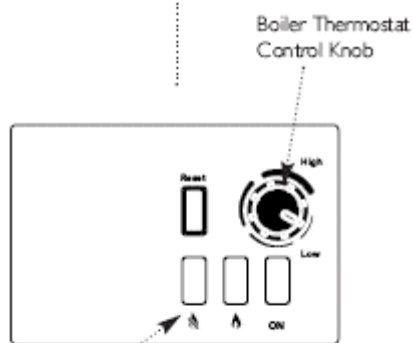

Fig. 6
2. The lockout indicator light () will be either flashing or permanently illuminated and the boiler will need resetting (Fig. 6).